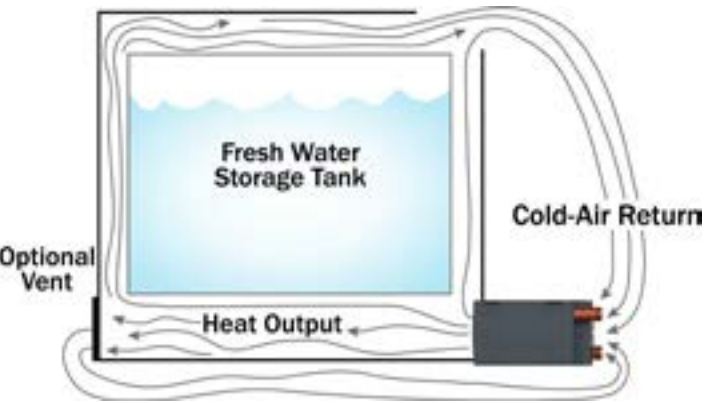

Figure 22
- If a heat exchanger is kept in the fresh water storage bay, then the last heat exchanger in the coolant loop should be used. See Figure 22.